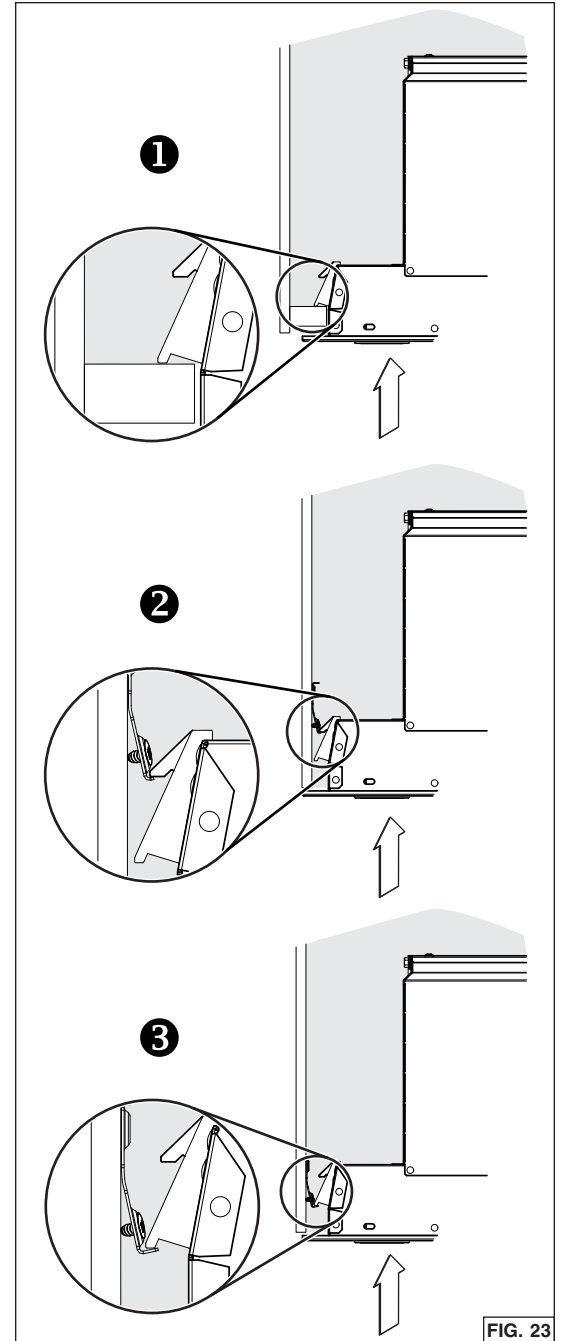

FIG. 23
2. Insert the unit in the cabinet, until you feel a 'click' from both sides of the unit, confirming that the Ease of Install Hooks rest on the top of the cabinet bottom sides **1**, or cabinet brackets **2** or **3** (FIG. 23). Move the unit from left to right, from rear to front and up to ensure the Ease of Install Hooks are retaining the unit inside the cabinet.